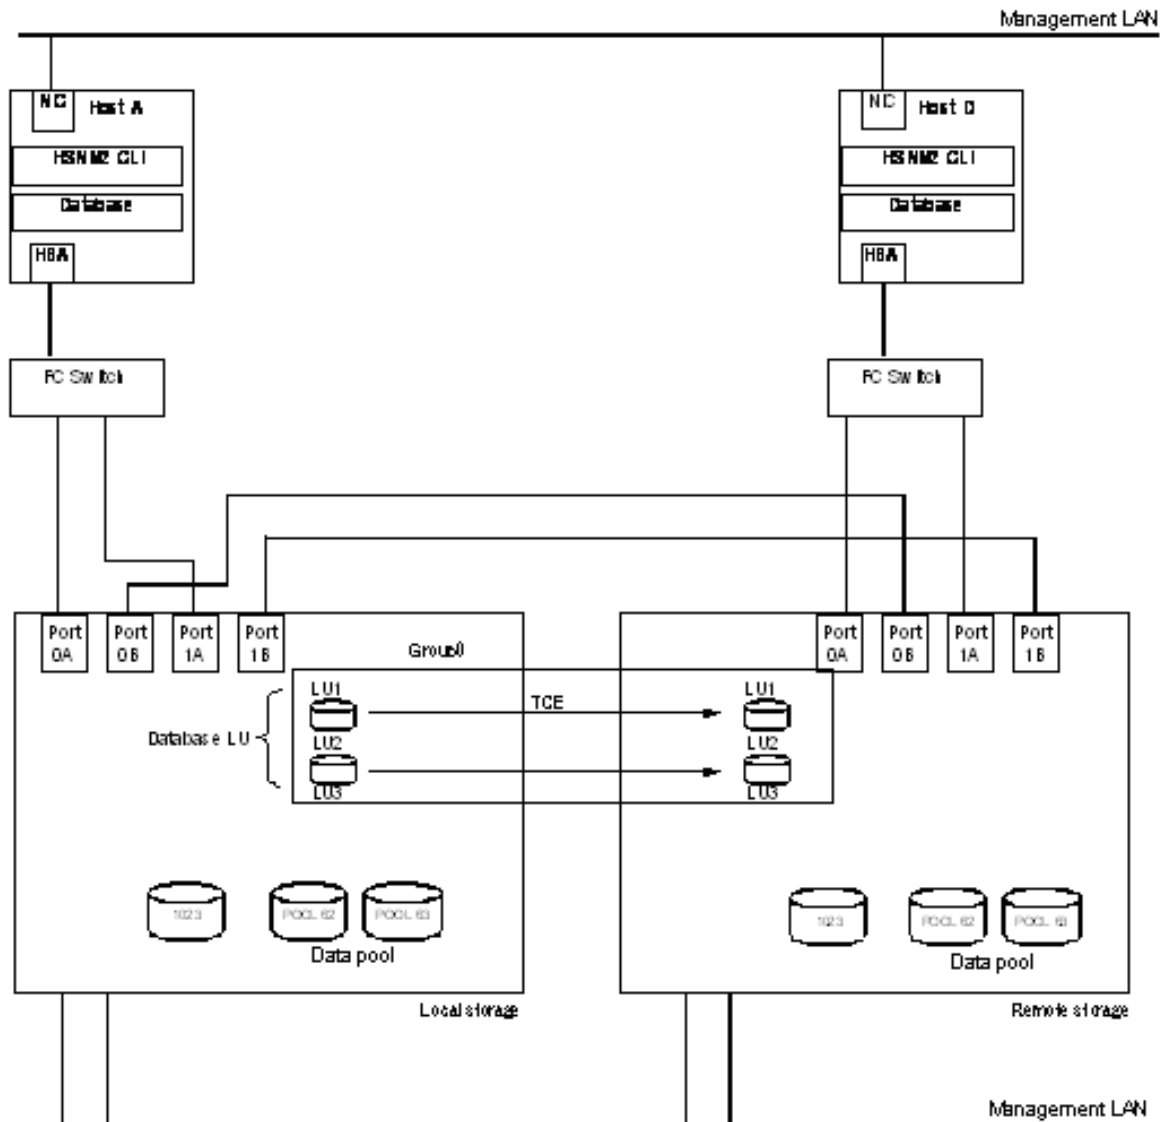

Figure 8-2: Configuration Example for Moving Data
- A database application on host A writes to the P-VOL logical units LU1 and LU2, as shown in Figure 8-2.